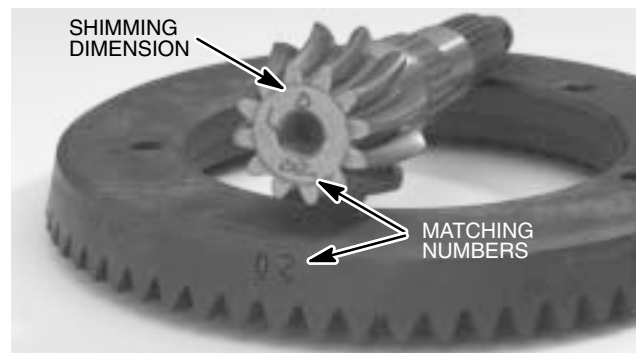

Figure 33
The ring gear (32) and pinion gear (8) are supplied as a matched set. Both gears are etched for verification with matching numbers. If a new gear set is being used, verify that the matching numbers are the same on both the ring and pinion gear before assembling the front differential (Fig. 33).
On the end of each pinion gear, there is an etched number indicated by plus (+), minus (–), or zero (0). This number indicates a shimming dimension for the best running position of the gear set. This dimension is controlled by shimming between the bearing cup (10) and the carrier assembly (15) (Fig. 33).
D. Note shimming dimension on the pinion gear (Fig. 33). If the dimension is (+) positive, add the dimension to 3.750 inch. If the dimension is (–) negative, subtract the dimension from 3.750 inch.
IMPORTANT: The pinion gear (8) and ring gear (32) are supplied only as a matched set. Matching numbers on both gears are etched for verification. When using a new gear set, make sure the matching numbers are verified before using (Fig. 33).